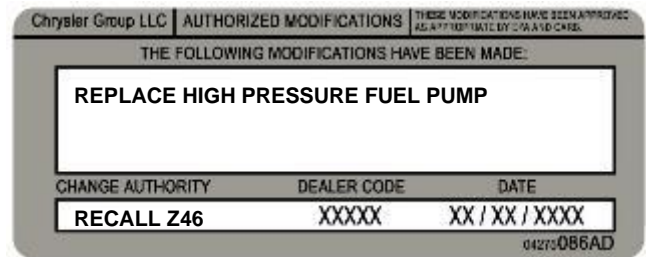

Figure 63 – Authorized Modifications Label
1. Type or print (with a ballpoint pen) the necessary information shown in (Figure 63) onto the authorized modifications Label.